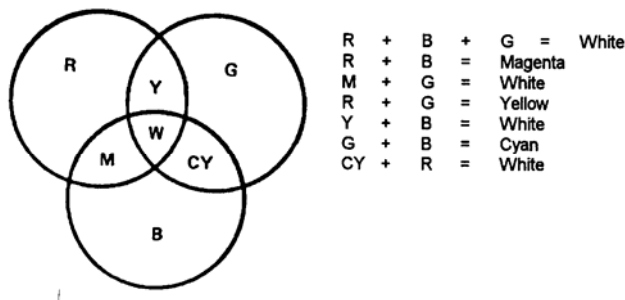

Figure S-11. Additive Primaries.
(1) Two requirements for the primary colors are that each primary must be different and that the combination of any two primaries must not be able to, produce the third. Red, green, and blue were chosen for the additive primaries because they fulfilled these requirements and because it was determined that the greatest number of colors could be matched by the combination of these three colors.
(2) Figure S-11 shows the three additive primaries combined in a definite proportion. White has been produced through the addition of all three primaries. Red and green combine to make yellow. The combination of red and blue produces magenta (bluish-red), while green and blue combine to make cyan (greenish-blue).